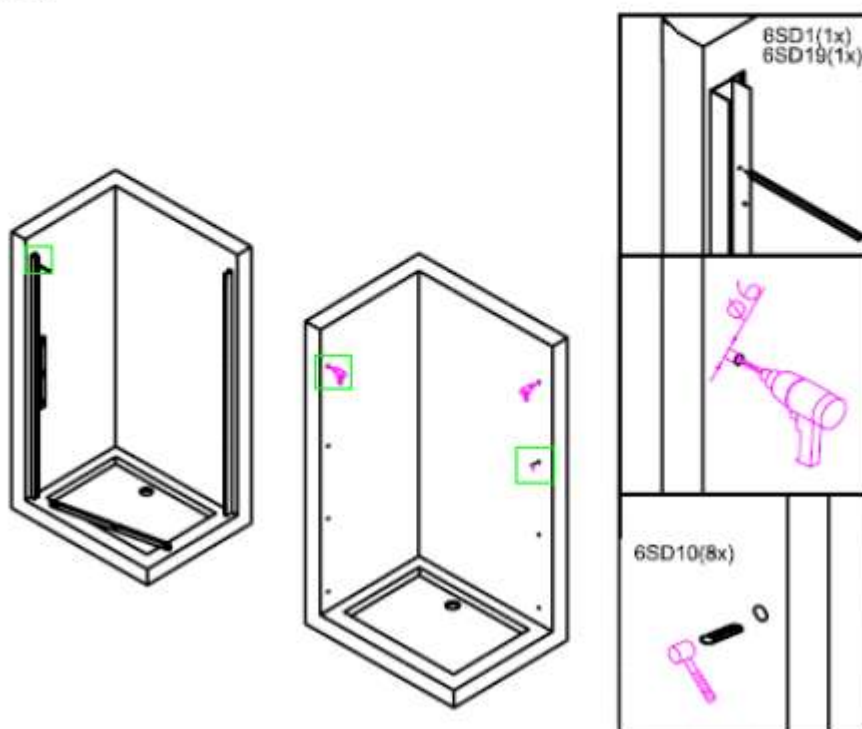

Figure 1
1. Using the spirit level to make sure the frame between the walls is horizontal. lift the wall profile(6SD1) upto the wall. Check whether the frame is vertical by using a spirit level. Mark the holes to the walls with a pencil. Drill the holes( $\varnothing$  6mm) into the wall according to the marks made and insert the wall plugs (6SD10) into the holes, as shown in figure 1